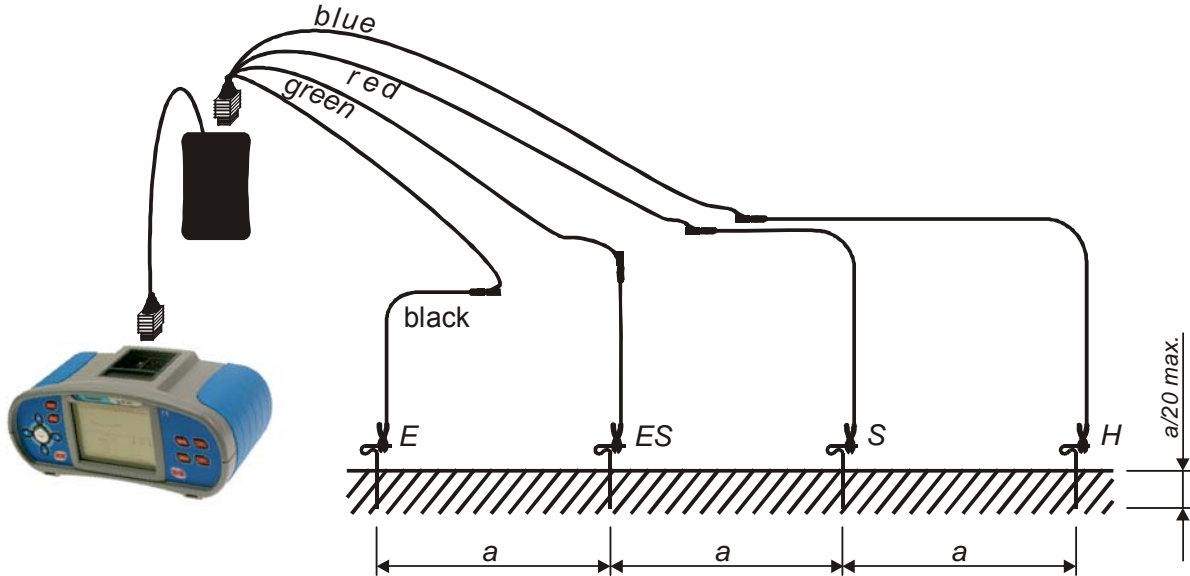

Figure 5.39: Specific earth resistance measurement with ρ -adapter
- Connect test leads of **ρ -adapter** to tested object (see figure 5.39)